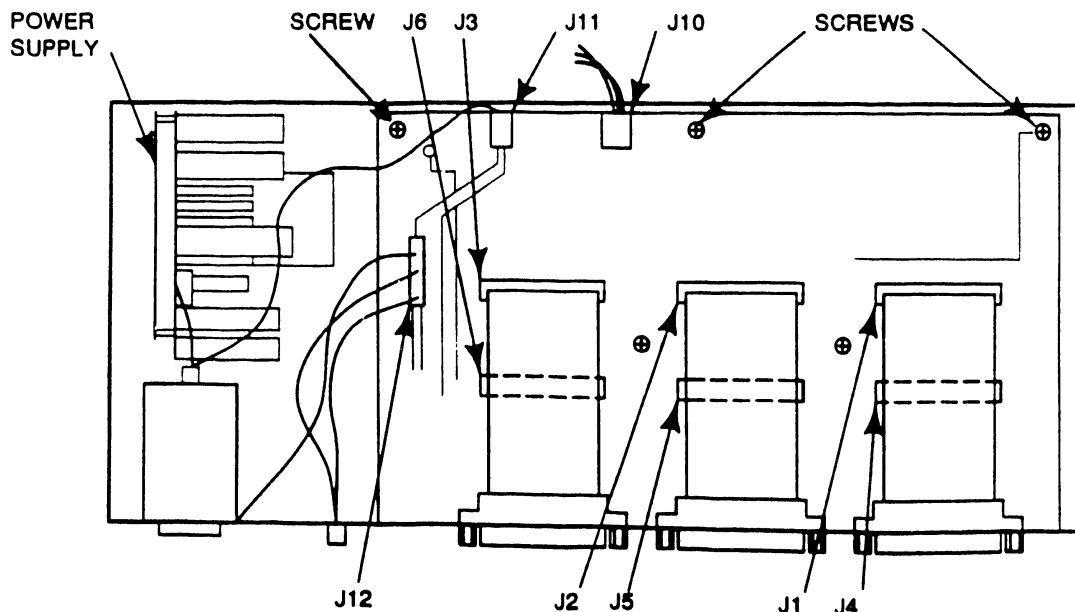

Figure 6 210-9181 PCA Removal Procedure
3. Once cover is freed from unit, stand cover on front edge and disconnect key switch cable (WLI 220-2101) from connector J10 on AB Tape Switch PCA (WLI 210-9181). (Figure 6)
2. Disconnect two-pin plug from connector J11 on 210-9181 PCA. Plug is keyed +5V (red wire) and Ground (black wire). (Figure 6)